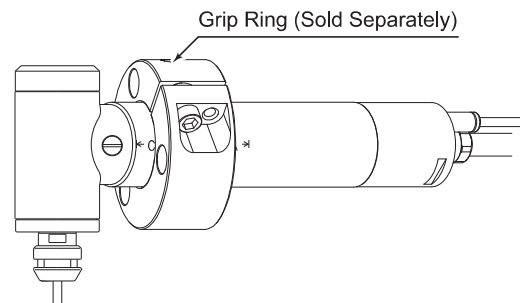

Fig. 14
- * When installing the Brushless Motor Spindle, it is recommended to use a "GR - 30 Grip Ring (sold separately (Fig. 14))". If the GR - 30 Grip Ring cannot be used due to the restriction of dimension and space, install as shown in ② below.